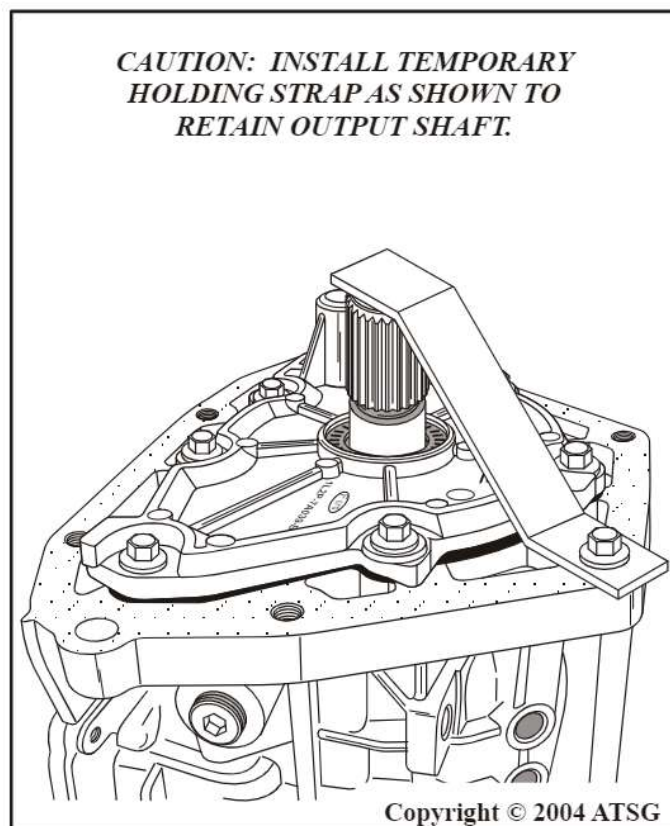

Figure 49
- Caution:** *Install temporary strap on back of case, as shown in Figure 49, to retain the output shaft from falling out, "before" you remove the snap ring.*